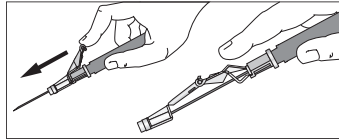

Fig. 13
- Immediately activate needle protection device upon withdrawal from patient. For greatest safety, use a one-handed technique and activate away from self and others (refer to Fig. 13).